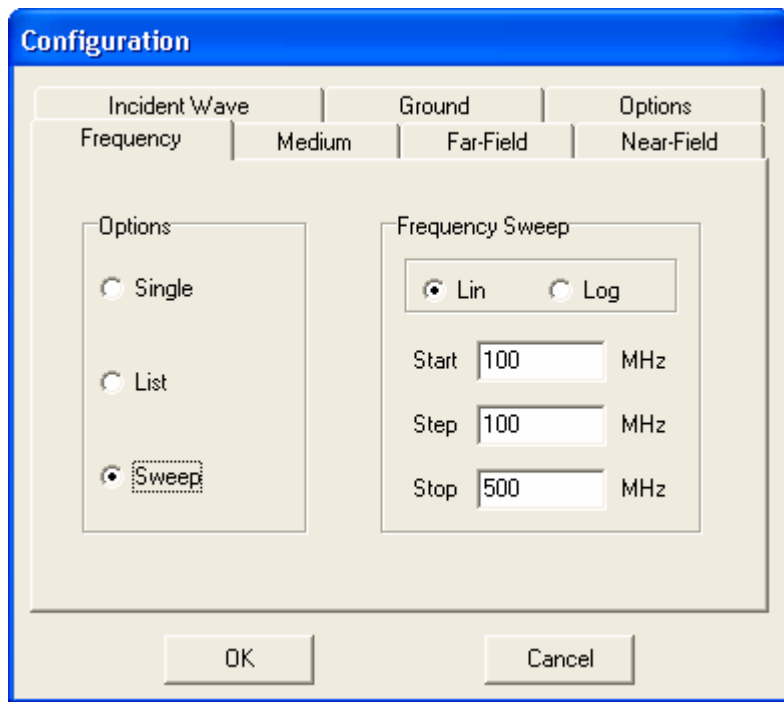

Fig. 4.3: Frequency page in the Configuration dialog box. A linear frequency sweep is entered.
- ❑ If **Sweep** is selected, it can either be linear or logarithmic. For a linear sweep the start, step and stop frequencies have to be defined. For a logarithmic frequency sweep the start, stop and a multiplication factor must be defined, Fig. 4.3.